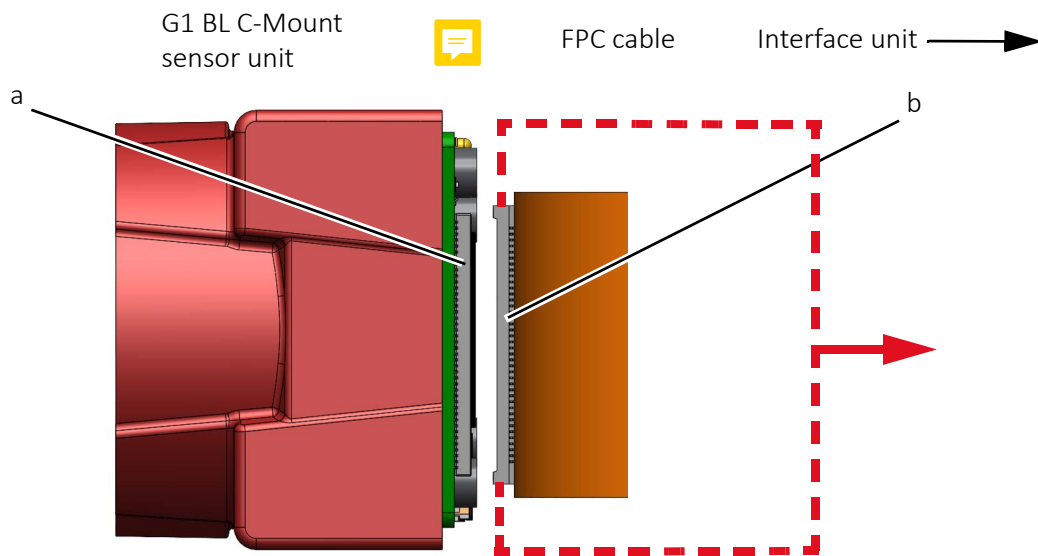

Figure 57: Disconnecting the interface unit from the sensor unit
- Disconnect the FPC cable **only** on the sensor unit side as shown in Figure 57.
2. With 2 fingers grabbing the cable side FPC connector (b) at the edges, disconnect the FPC cable from the FPC connector (a) of the sensor unit as shown in Figure 57.